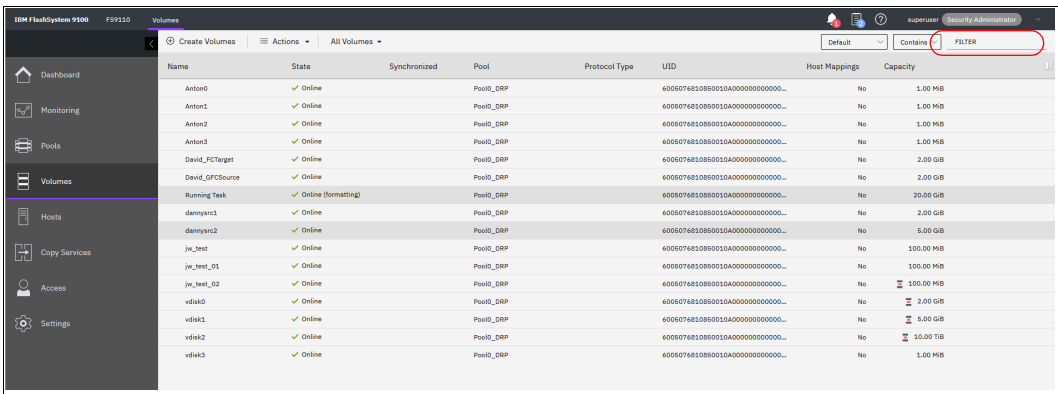

Figure 4-23 Filter search box
1. In the **Filter** box that is shown in Figure 4-23, enter a search term by which you want to filter. You can also use the drop-down menus to modify what the system searches for. For example, if you want an exact match to your filter, select **=** instead of **Contains**. The first drop-down list limits your filter to search through a specific column only, for example, Name and State.